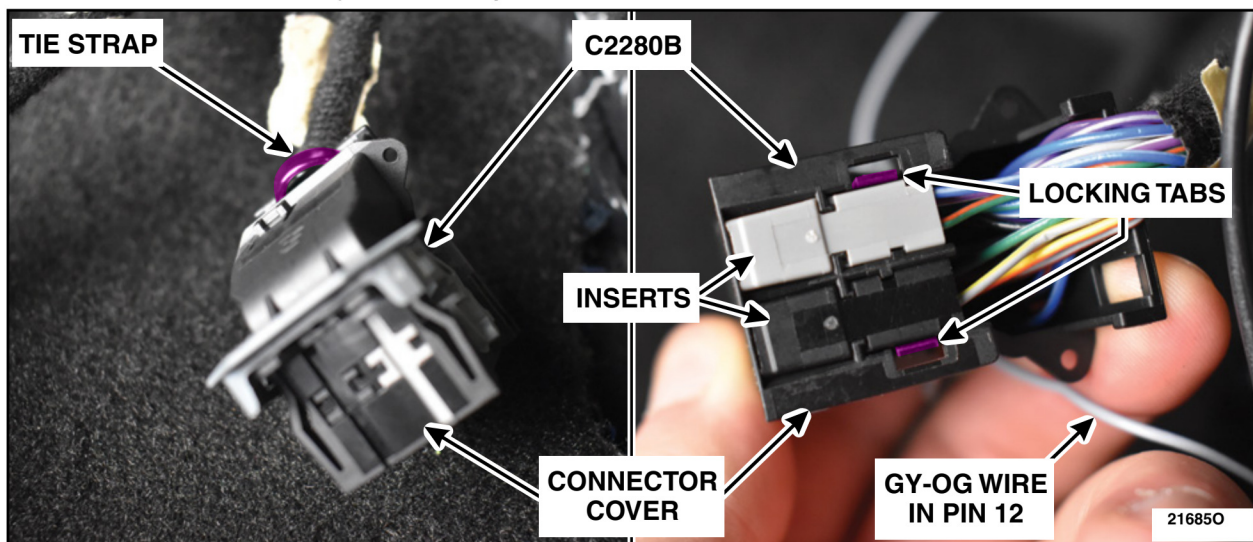

FIGURE 14
18. Install the Grey-Orange (GY-OG) wire from the relay into C2280B. See Figure 14.